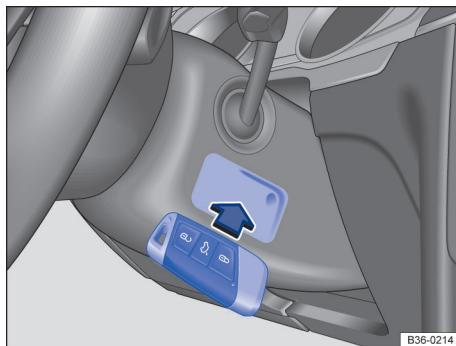

Fig. 132 On the right-hand side of the steering column: emergency start function in vehicles with the keyless access locking and starting system.
- Hold the vehicle key to the right of the steering column trim directly after pressing the starter button → Fig. 132.